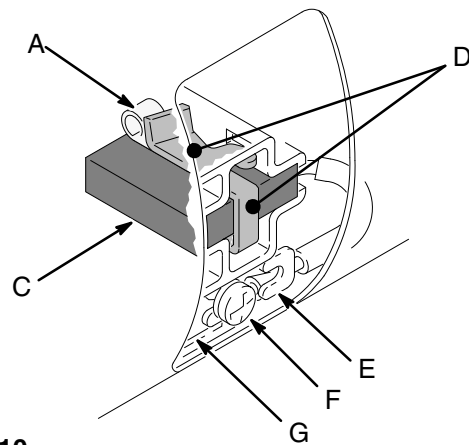

Fig. 10
3. *Loosen* the terminal screw (F). Pull the brush lead (G) away, leaving the motor lead in place. Remove the brush (C) and spring (B). See Fig 10.